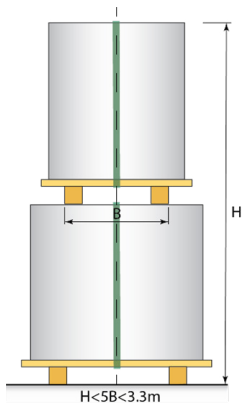

Figure 6a. Height limits for stacks of coils – bore vertical palletised.
The maximum stack height to width ratio should be 5:1, to a maximum height of 3.3 metres for palletised coils or 2.5 metres for non-palletised coils (Figures 6a and 6b). The width (B) referred to in the Figures is the overall distance between the outside of the narrowest support set (either the dunnage or pallet bearers).